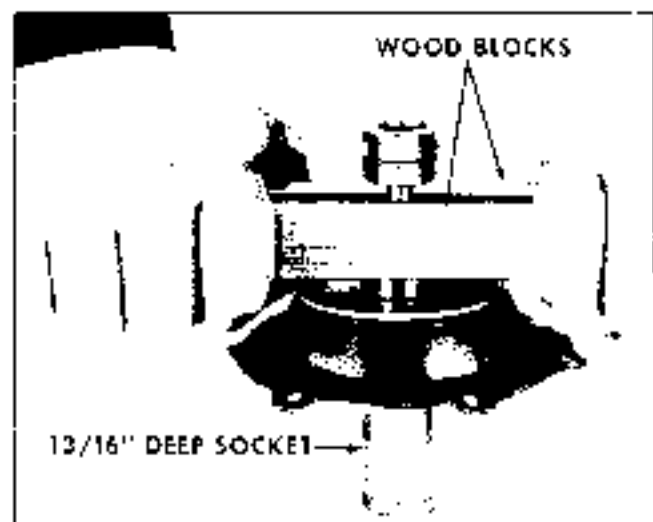

Fig. 4-24 Installing Diaphragm Retainer
1. Install new composite washer, oil plate (unless damaged), new diaphragm (with water lip toward second stage of piston) and second plate (Fig. 4-24).